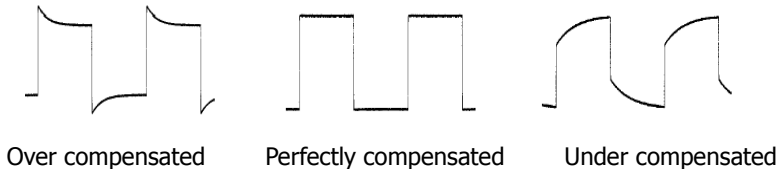

Figure 10 Probe Compensation
2. Check the displayed waveforms and compare them with the waveforms shown in Figure 10.
3. Use the probe compensation adjustment tool provided in the accessories to adjust the low-frequency compensation adjustment hole on the probe until the displayed waveform is consistent with the "Perfectly compensated" waveform shown in Figure 10.